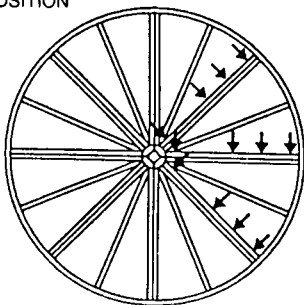

Figure 3.
**STEP 3** Place another two pieces together, face down, line up the pre-drilled holes and place the M6X50 bolts through the three outermost and one innermost holes. See Figure 3.